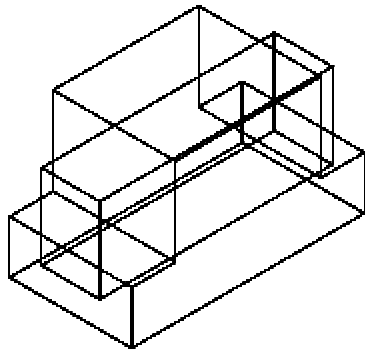

Figure 24-27 Model before subtraction
9. Move the new box inside the existing model such that the midpoint of the left edge of the base of the box is 9 units above that of the model, see Figure 24-27. (Use the **From** option.)